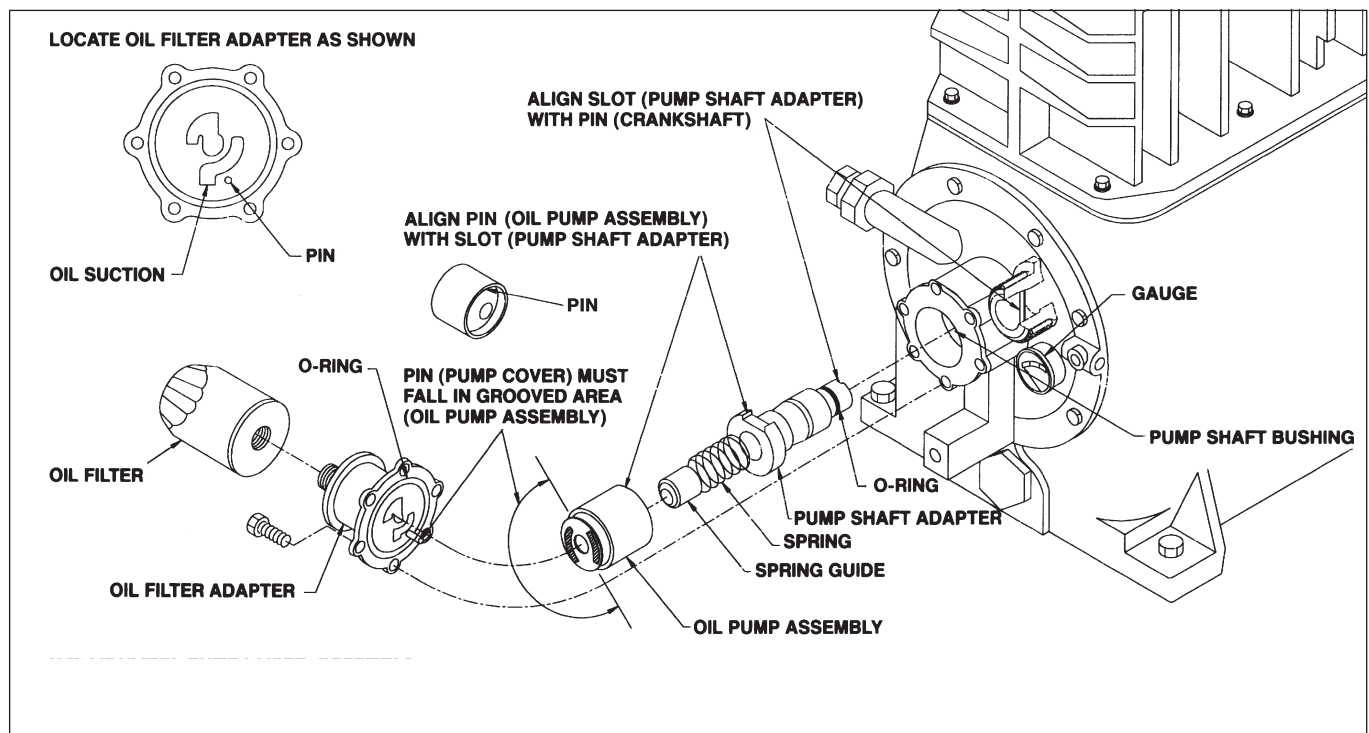

Figure 4.6: Bearing carrier replacement
2. Press the new bearings into position and reassemble the crankshaft and bearing carrier to the crankcase. When reinstalling the bearing carrier, make sure the oil pump shaft slot is aligned with the pin in the crankshaft. Make sure to install the bearing carrier gasket so the oil passage hole is not blocked (see figure 4.6).